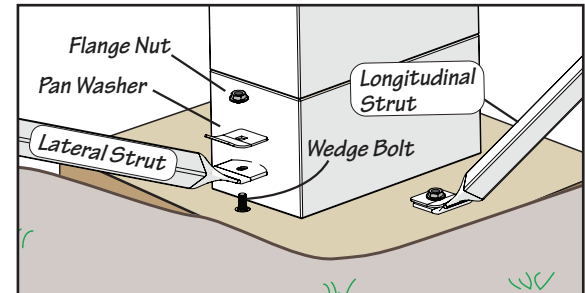

Fig. 4-3
- Slide a pan washer over the carriage bolt/lateral strut, install a flange nut over the carriage bolt as show right in Fig. 4-3.